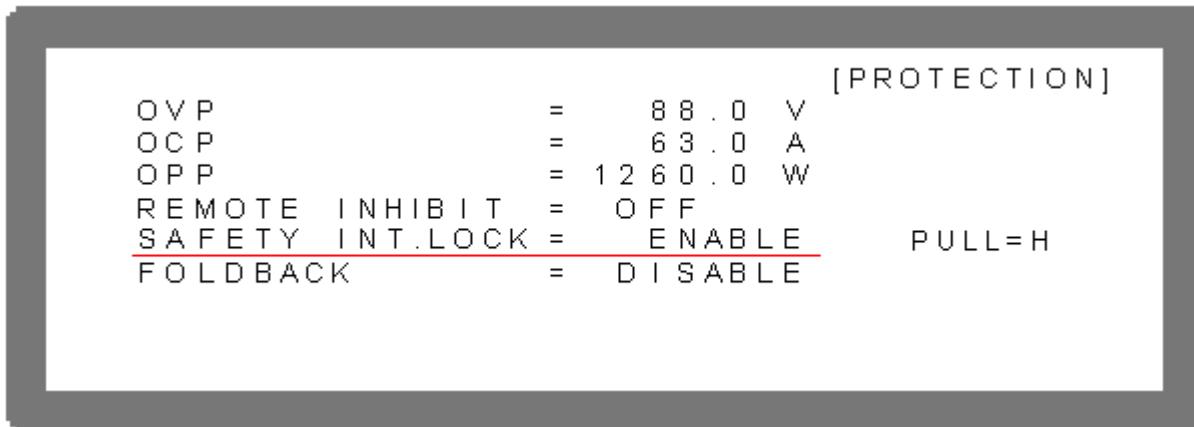

Figure 3-81
1. Use "←↑" & "→↓" keys to move the cursor to the column to be set as Figure 3-81 shows.